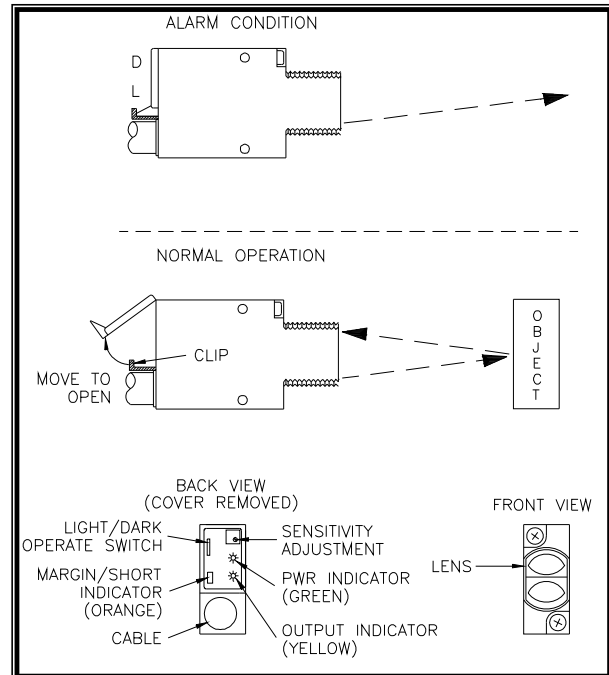

Figure 48 Low Label Detector
3. The rear cover window on the detector must be opened before any adjustments can be made. See Figure 48. Press the flexible retaining clip against the cable to open the window.